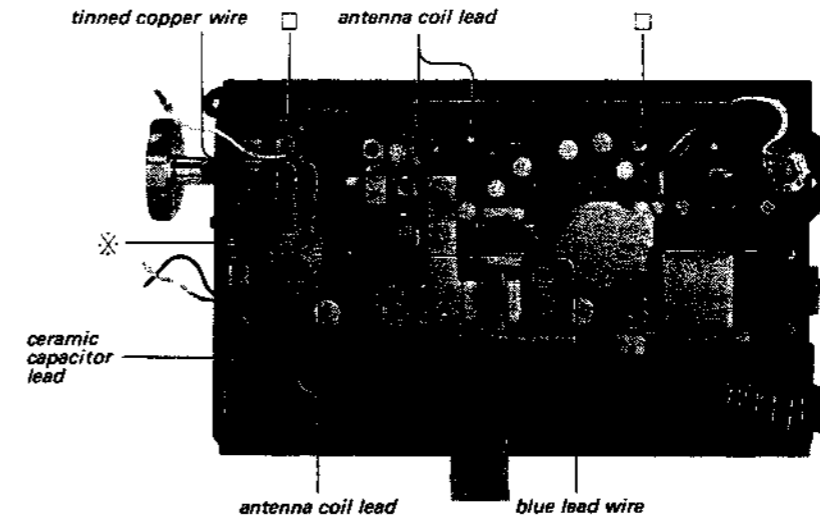
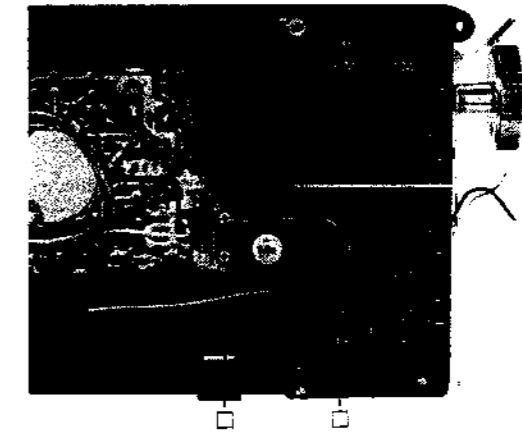

Fig. 5-1 Printed circuit board removal
Fig. 5-2 Printed circuit board removal
1. Remove four screws marked with □ in Fig. 5-1 and Fig. 5-2.
2. Unsolder four antenna coil leads and a pvc lead wire at tuning capacitor shown in Fig. 5-1.
3. Unsolder a tuning capacitor terminal marked with * and three tinned copper wires shown in Fig. 5-1.
4. Unsolder a ceramic capacitor lead shown in Fig. 5-1.